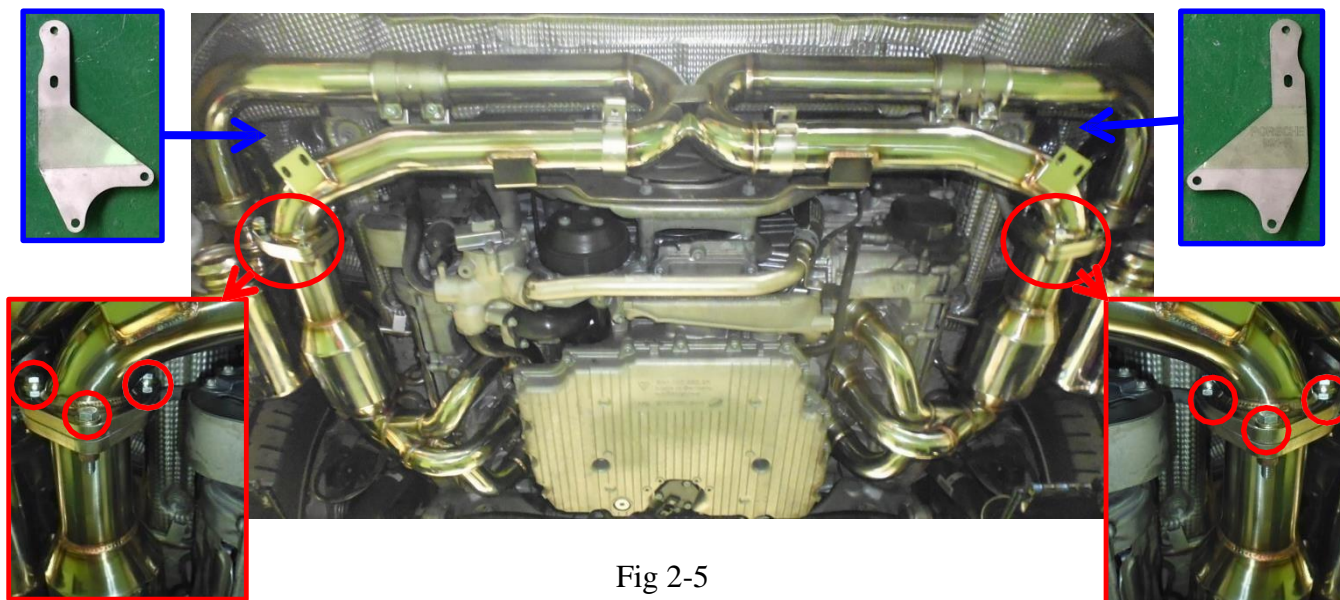

Fig 2-5
6. Lock the muffler using a 13mm hex wrench and install the muffler fixed rack. (Fig2-5)
7. Use a 13mm hex wrench to lock the clamps. (Fig2-5)